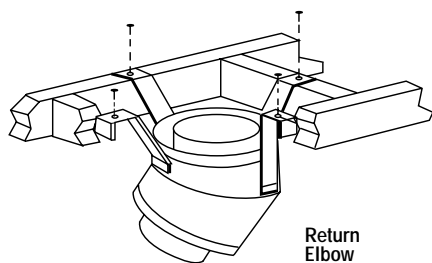

Figure 38
Step 5. Secure support straps to framing members by nailing under tension in sheer (Figure 38).